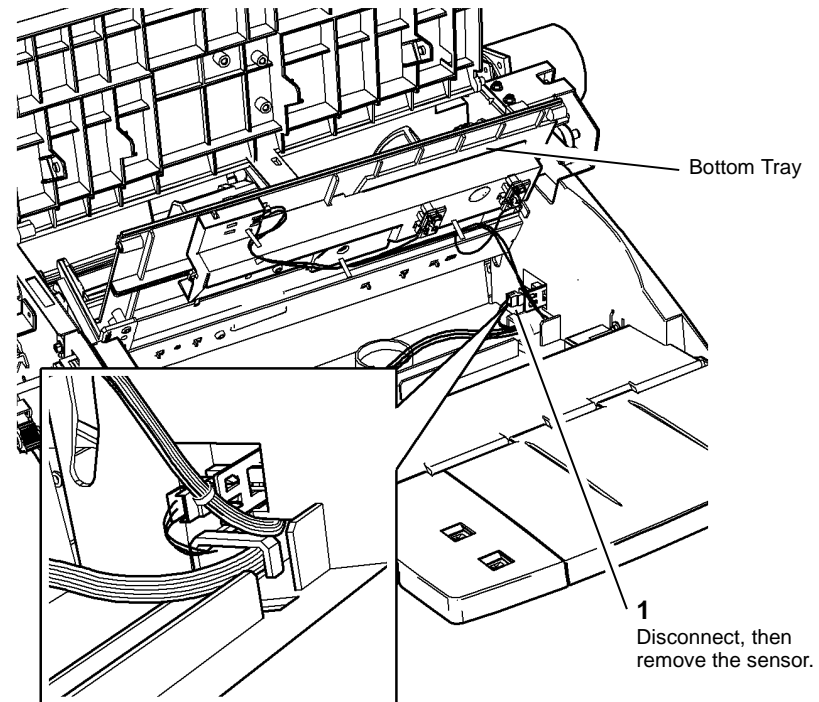

Figure 1 Sensor removal
- Remove the sensor from the bracket, Figure 1.